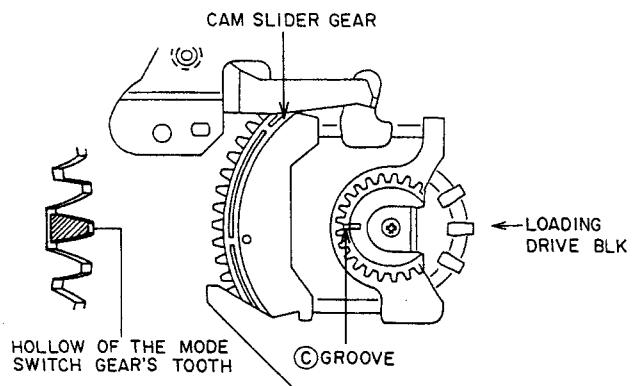

Fig. 3-15
- 2) Attach the MODE SELECT SWITCH to the LOADING DRIVE BLK and align the hollow of the gear's tooth (reverse side of the ④ mark) with the ④ groove of the CAM SLIDER GEAR as shown in Fig. 3-15.